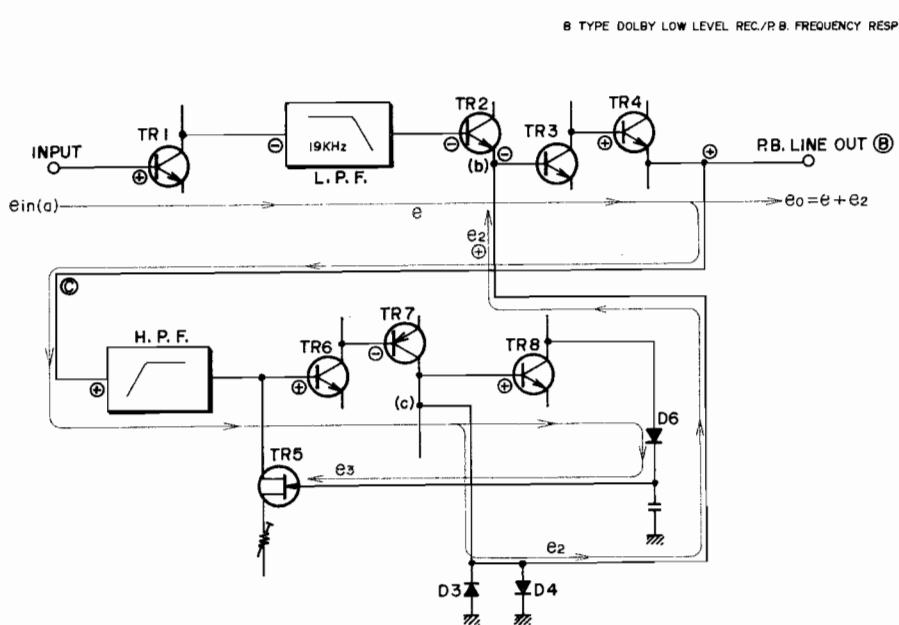

Fig. 49
2. PLAYBACK DOLBY N.R. SYSTEM (Refer to Figs. 49 and 50)
- 3) (Refer to Figs. 49 and 50)